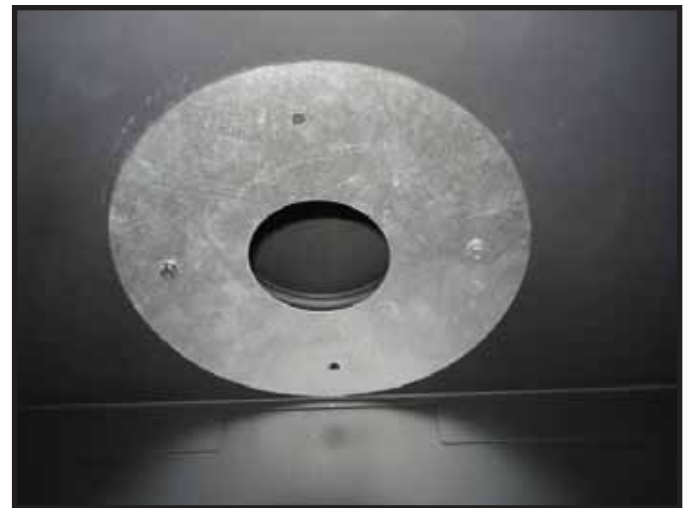

Figure 7.7 Exhaust Restrictor Installation
3. Use (2) 1,3 cm self-piercing screws to secure vent restrictor to firebox heat shield. See Figure 7.7.